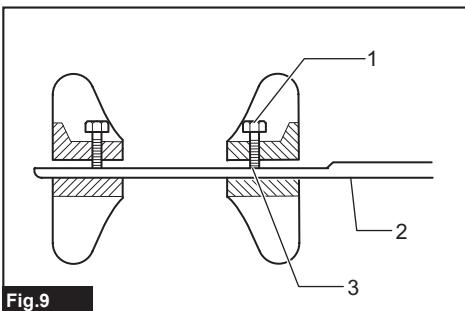

Fig.9
► Fig.9: 1. Hex bolt 2. Shaft 3. Flat surface